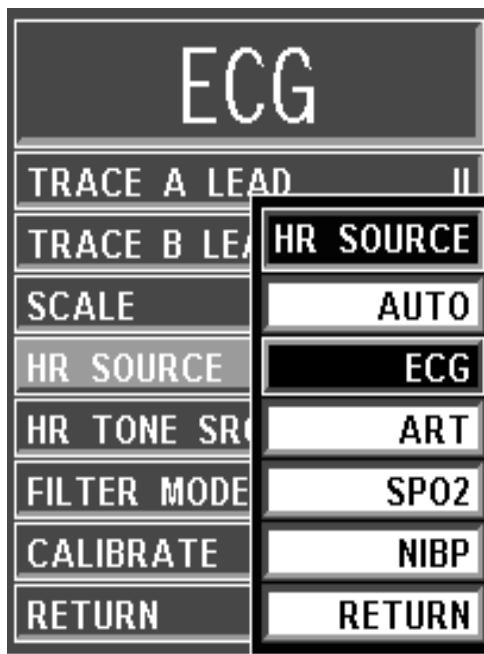

Figure 4-4. The ECG HR SOURCE Sub-Menu
- d. **HR SOURCE.** Selecting this menu option allows the selection of the source to be used for the heart-rate display in TRACE A area. The options are AUTO, ECG (default), ART, SPO2 and NIBP (See Figure 4-4).